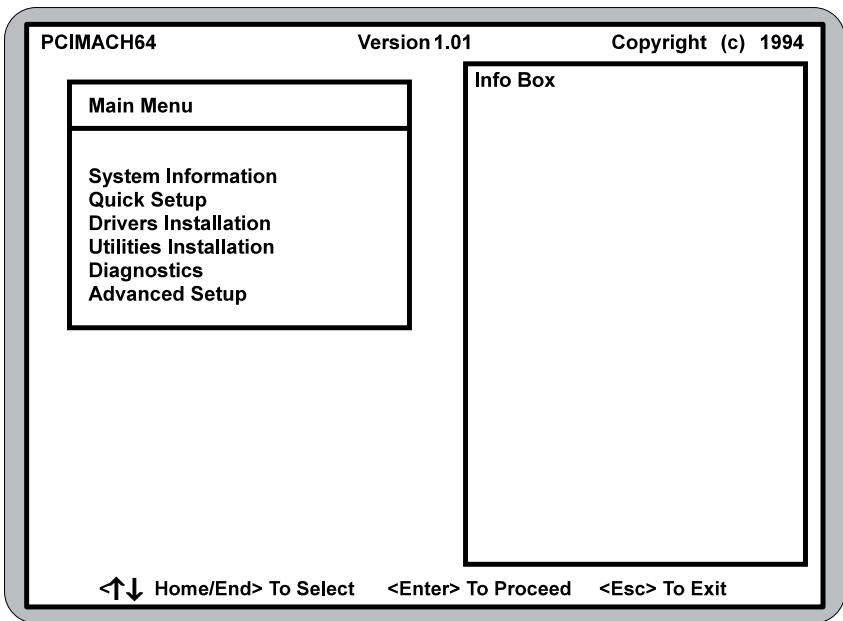

Figure 5-1 Main Menu
4. After the **INSTALL** program is initialized and loaded, the Main Menu appears (see Figure 5-1).